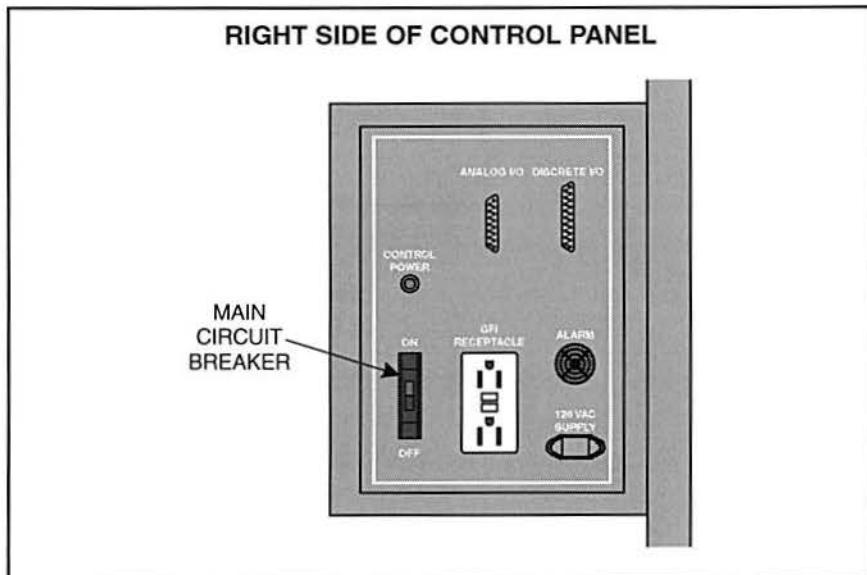

Figure 36. The Main Circuit Breaker
- ❑ 1. Locate the main circuit breaker on the right side of the control panel of the T5552, as figure 36 shows.